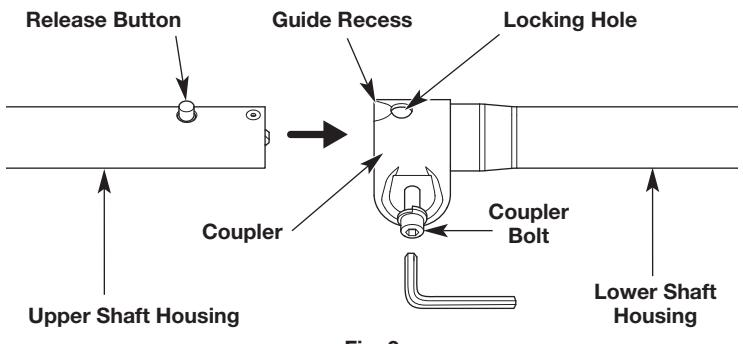

Fig. 3
2. Use a 3/16 in. Allen wrench to loosen the coupler bolt (Fig. 3).
3. While firmly holding the upper shaft, push it straight into the coupler until the release button snaps firmly into the locking hole (Fig. 3).
NOTE: Aligning the release button with the guide recess will help installation (Fig. 3).
4. Tighten the coupler bolt until the upper and lower shafts are firmly connected (Fig. 3).
CAUTION: Before operating the unit, make sure the release button is fully snapped into the locking hole (Fig. 3) and the coupler bolt is securely tightened.